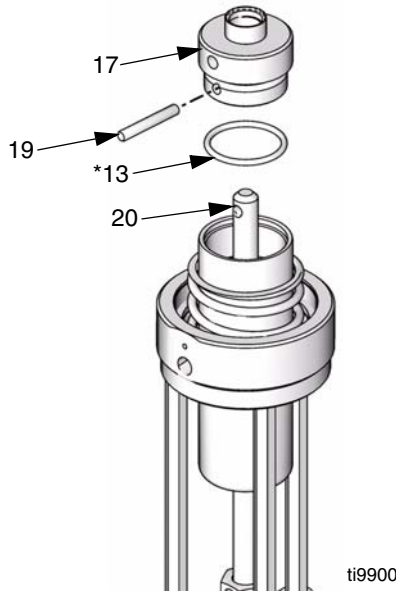

FIG. 14
- Remove dowel pin (19) and take piston cap (17) off transfer shaft (20). Remove o-ring (13\*) from piston cap. Inspect all parts for damage. See FIG. 14.